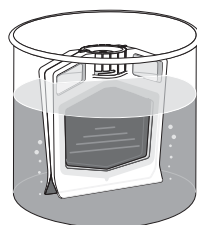

Figure 1 Hydrate the membrane.
2. Immerse the cassette in dialysis buffer for 2 minutes (Figure 1). It may be necessary to hold the cassette under the surface for the hydration step as the air inside the cassette may cause it to float sideways.
2. Immerse cassette in dialysis buffer for 2 minutes to hydrate the membrane (Figure 1). It may be necessary to hold the cassette under the surface for the hydration step as the air inside the cassette may cause it to float sideways.